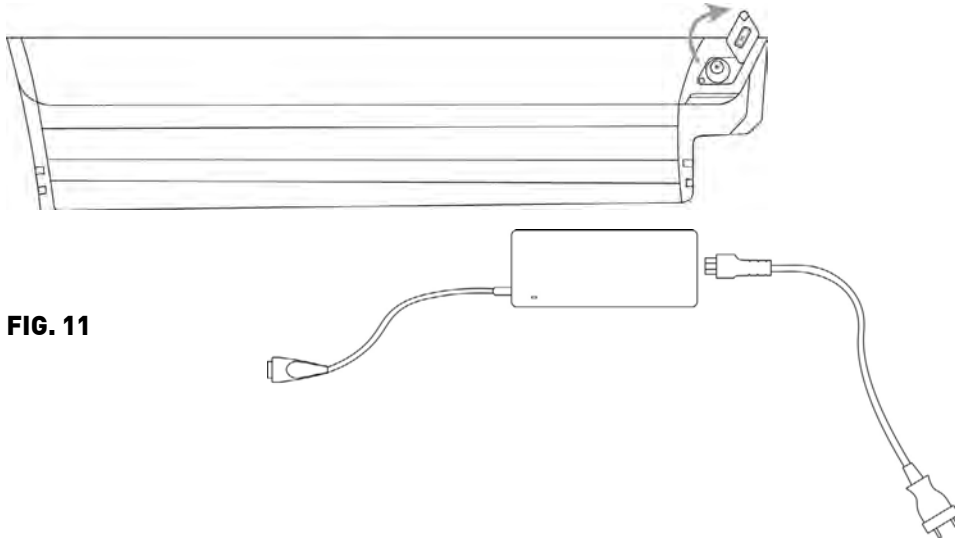

FIG. 11
3. Lift the rubber stopper at the top right of the battery (Figure 11)